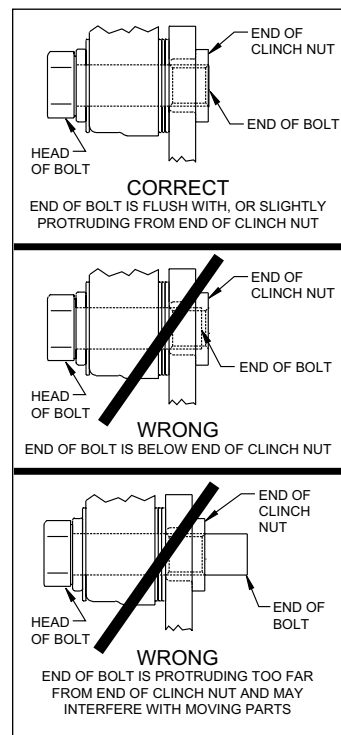

Figure 5. Clinch Nut Engagement Diagram
- NOTE:** Please reference the caution statement at the beginning of the assembly instructions. Mount the caliper (18) onto the caliper mounting bracket (1) using bolts (20) and washers (19), as shown in Figure 4. Initially place two .035" thick shims (21) on each bolt between the caliper and the bracket, Photo 9. Temporarily tighten the mounting bolts and view the rotor (11) through the top opening of the caliper. The rotor should be centered in the caliper, Photo 10. If not, adjust by adding or subtracting shims between the bracket and the caliper. Always use the same amount of shims on each of the two mounting bolts. **NOTE:** The end of each bolt must be flush with or slightly protruding from the head of the clinch nut, as shown in Figure 5. If necessary place spare shims between washer (19) and caliper mounting ear to achieve the proper clinch nut engagement. Once the caliper alignment and clinch nut engagement are correct, remove the bolts one at a time, apply red *Loctite*® 271 to bolt threads, and torque to 40 ft-lb.